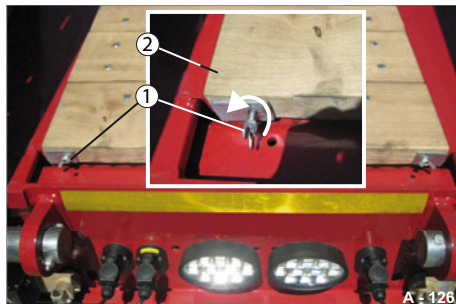

Fig. 118 Arm cavity closed
- Unscrew the wing screws (Fig. 118/1).